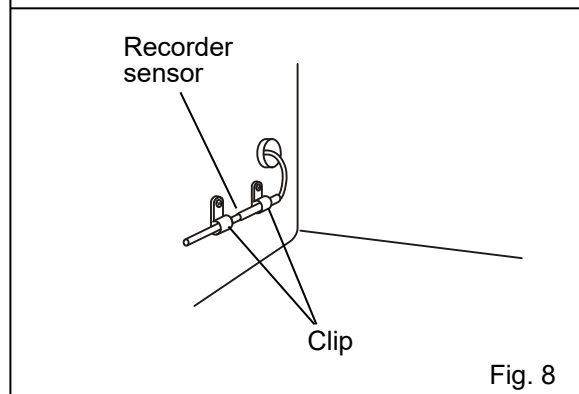

Fig. 8
7. Fix the recorder sensor for freeze to the attachment hole on the left side of the freezer by using the clips enclosed with the recorder fixture (MPR-S7) [Fig. 8].